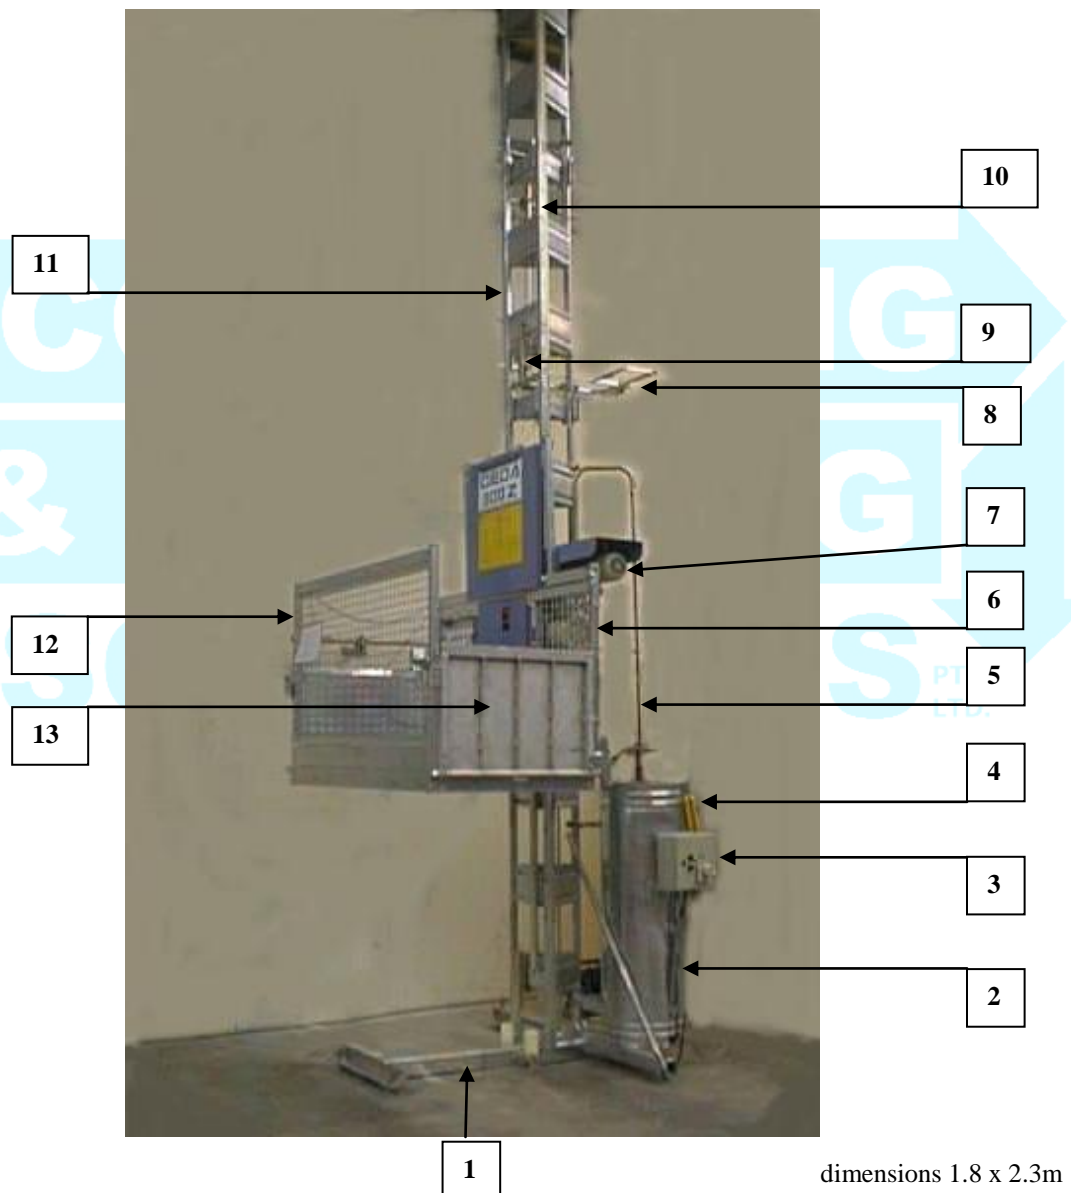

Fig. 2: Hoist Components
Refer to Fig. 2, Fig. 3 and Fig. 5
- A Landing Stop has been fitted to the mast [#10 in Fig.2, Fig. 5]